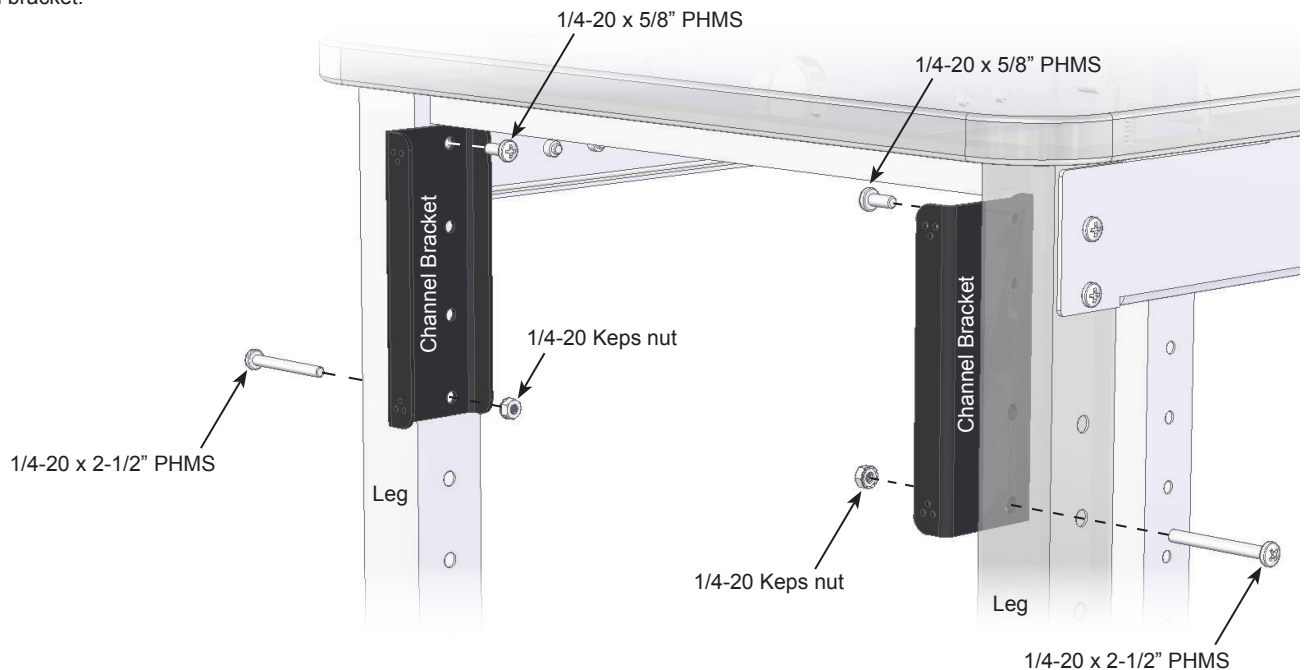

Figure 1
- Align each channel bracket with the leg mounting holes. **Figure 1**. (The two sets of 3 smaller holes will face outward.)
- Install (1) 1/4-20 x 5/8" PHM screw at the top of each bracket.
- Install (1) 1/4-20 x 2-1/2" PHM screw and Keps nut on the bottom of each bracket.